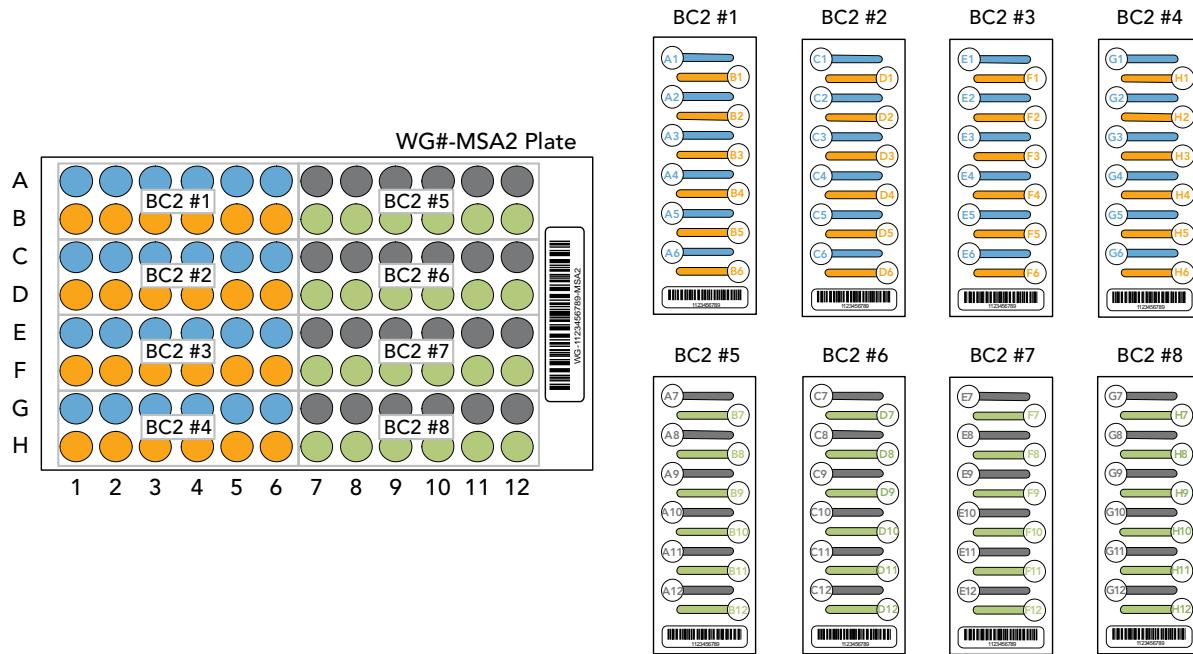

Figure 77 Distributing Sample to MSA2 Plate
6. Using a multi-channel precision pipet, dispense 12  $\mu$ l of each DNA sample onto the appropriate BeadChip stripe. Follow the alternate loading pattern on the lab tracking worksheet (also shown in Figure 77):